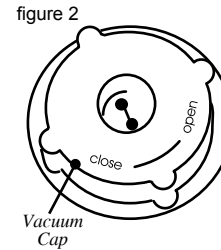
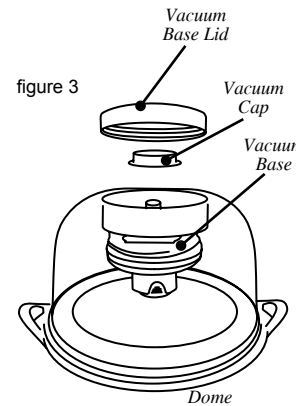

figure 2
figure 3
1. Remove the Vacuum Base Lid from the top of the Dome (figure 3).
2. Unscrew and remove the Vacuum Cap (figure 2) from the Vacuum Base (figure 3).